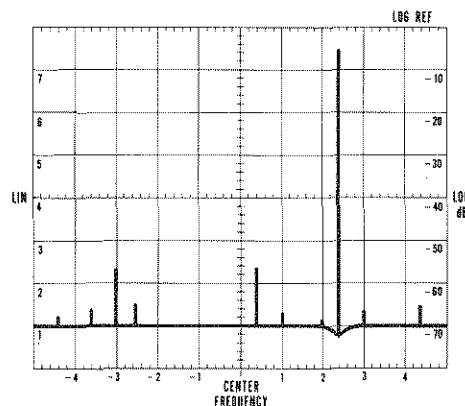

Figure 3-5a.
- 20 Note signal display similar to Figure 3-5a. Decrease INPUT ATTENUATION to 30 dB. Note display similar to Figure 3-5b. Note that some signal levels increased more than 10 dB. The input mixer is being overdriven (see Mixer Diode Characteristics, paragraph 3-13).